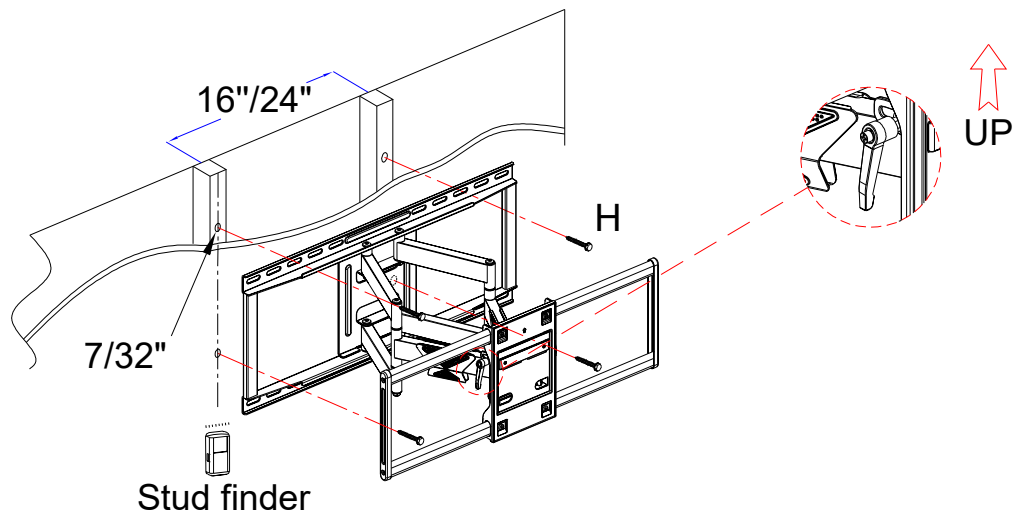

Figure 2 (keep the wall plate level)
If you mount TV mount into wood studs ,pre-drill the mark 4 holes using 7/32" drill bit to a depth of 2.5", fix wall plate unit (A) to the wall with screws(H) . (Figure 2)